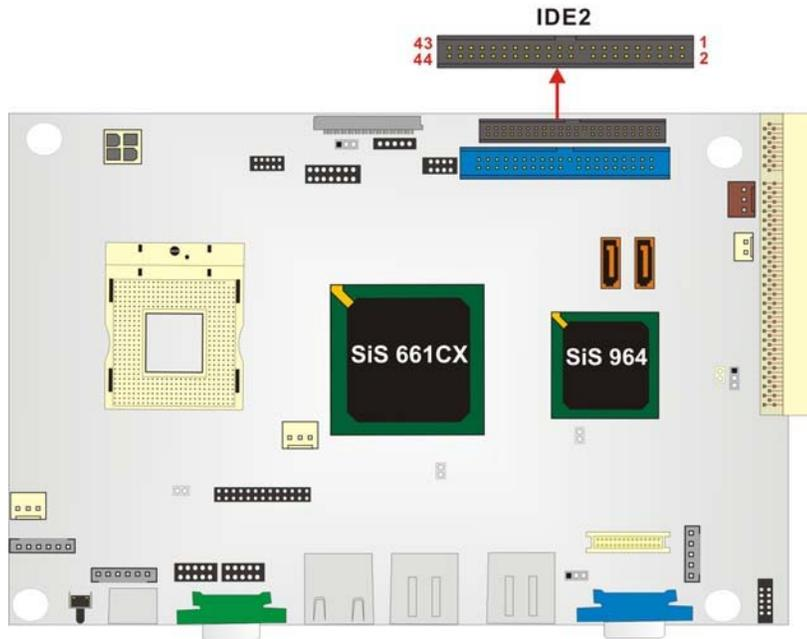

Figure 3-12: Secondary IDE Device Connector Location
- CN Location:** See Figure 3-12